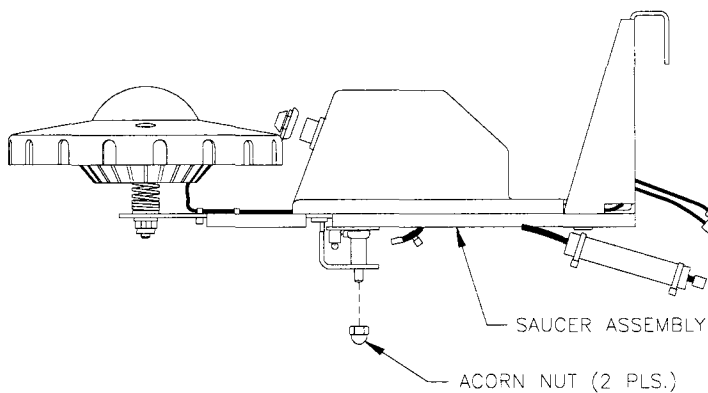

FIGURE 12
2. Remove the two acorn nuts (p/n 4408-01138-00) from the underside of Saucer Assembly (p/n A-20608) (See Fig.12)